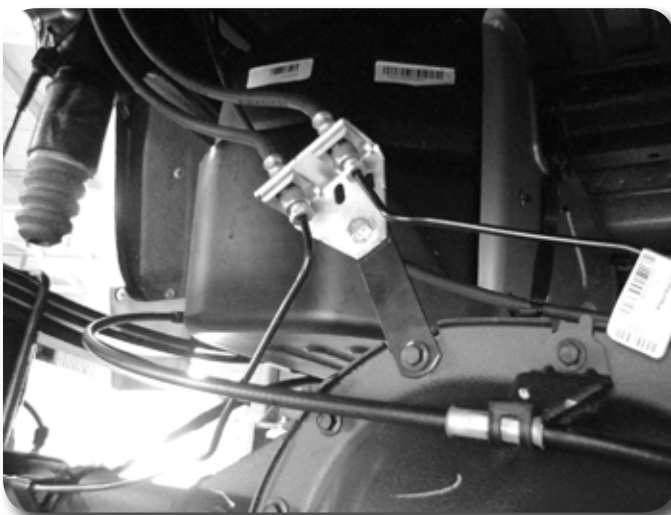

Figure 28
15. Install the provided straight 3" brake line bracket to the top of the differential using factory mounting hole and bolt which must be removed from the factory brake line bracket. Attach the factory brake line bracket to the relocation bracket with a 5/16" x 1" bolt, nut and washers. Torque the factory and 5/16" bolt to 20 ft-lbs Figure 28.